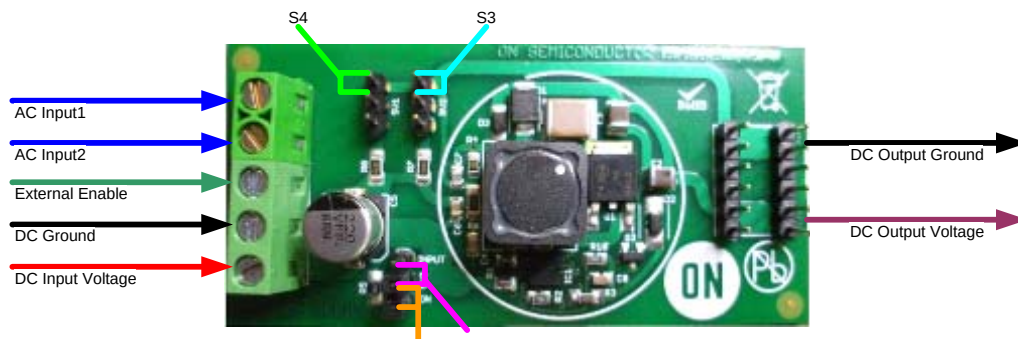

Figure 1: NCP3066 SEPIC PCB
4. Shorting either S4 or S3 as shown in Figure 1 will place R7 and R6 current sense resistors in parallel with R8. The NCP3066 SEPIC demonstration PCB is configured to output 350 mA when the LED load is set to 7.2 V. Placing one resistor in parallel with R8 by connecting either S4 or S3 will increase the current to 700 mA. Once the aforementioned steps are completed, both S4 and S3 will be shorted and the current limit will increase to 1.05 A.
3. Shorting either S4 or S3 as shown in Figure 1 will place R7 and R6 current sense resistors in parallel with R8. The NCP3066 SEPIC demonstration PCB is configured to output 350 mA when the LED load is set to 7.2 V. Placing one resistor in parallel with R8 by connecting either S4 or S3 will increase the current to 700 mA. Once the aforementioned steps are completed, both S4 and S3 will be shorted and the current limit will increase to 1.05 A.
4. Shorting either S4 or S3 as shown in Figure 1 will place R7 and R6 current sense resistors in parallel with R8. The NCP3066 SEPIC demonstration PCB is configured to output 350 mA when the LED load is set to 7.2 V. Placing one resistor in parallel with R8 by connecting either S4 or S3 will increase the current to 700 mA. Once the aforementioned steps are completed, both S4 and S3 are shorted and the current limit will increase to 1.05 A.